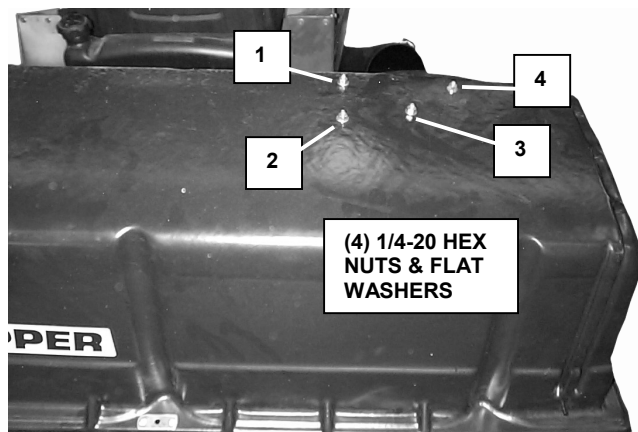

FIGURE 1.12
- B. Align (4) holes in baffle with the (4) holes in the top cover. Insert (4) 1/4-20 x 3/4" round head machine screws from inside cover. Place (1) 1/4" flat washer over each bolt and secure each with a 1/4-20 hex nut. See Figure 1.12.